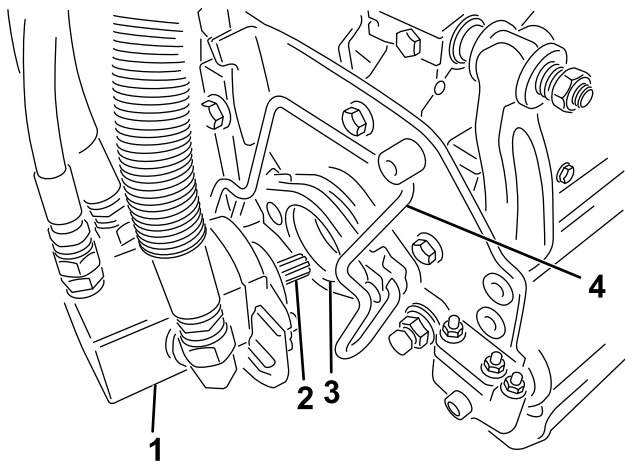

Figure 4
4. Insert the motor into the left side of the spiker unit (as viewed from the operator's position), and pull the motor retaining bar on the spiker unit toward the motor until you hear a click from both sides of the motor (Figure 4).